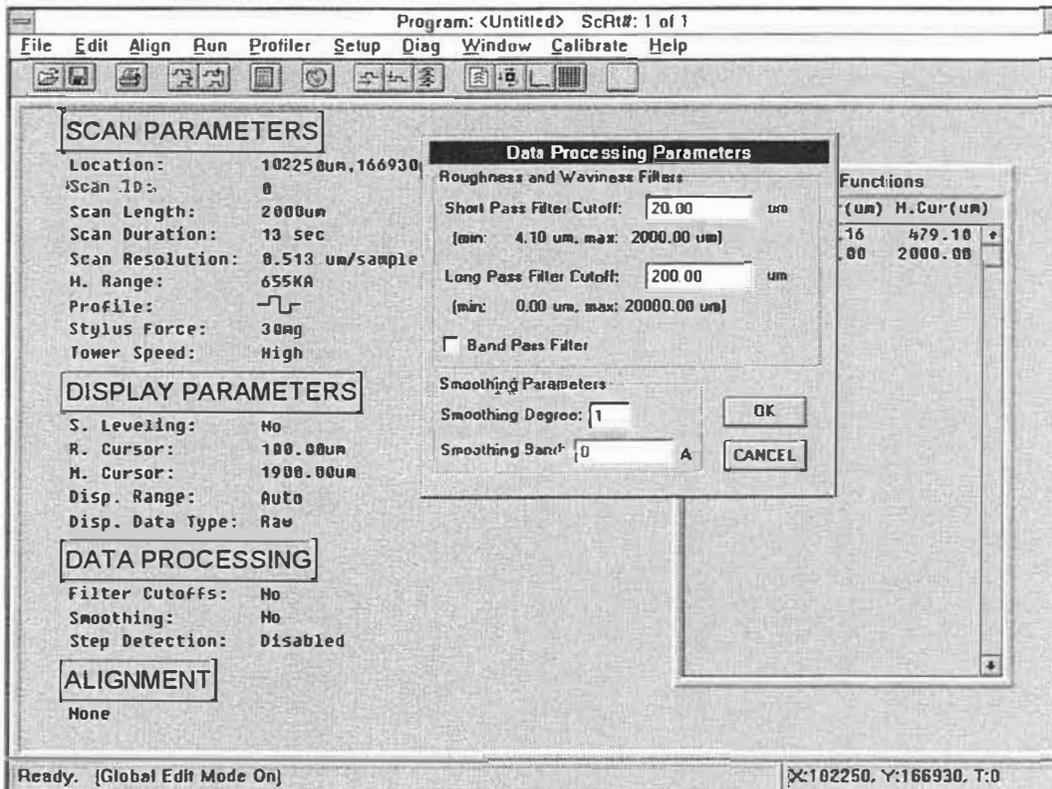

Figure 6-7. Filter Cutoffs Parameter
5. Click-on "ADD". The WA function will be entered into the area on the right of the Scan Routines screen labeled "Analytic Functions" (see Figure 6-7). Click-on "DONE" when complete.